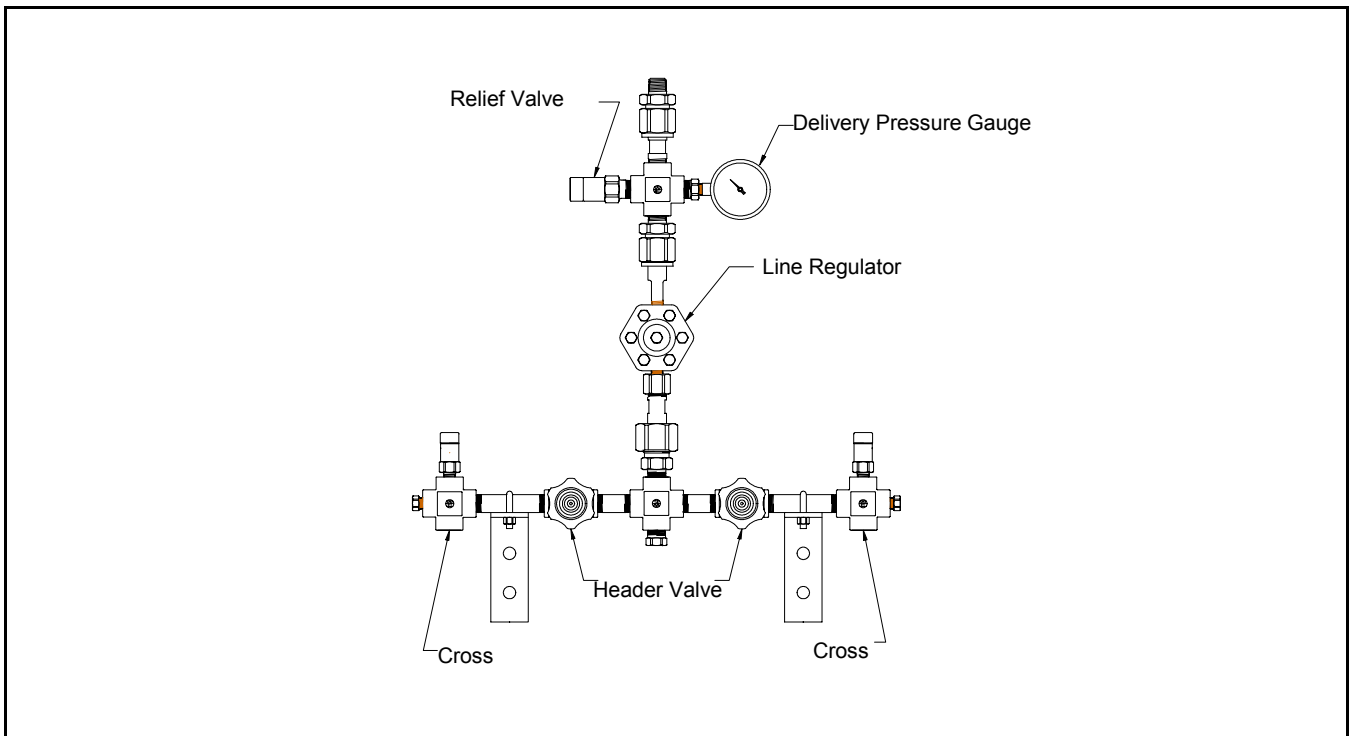

FIGURE 11
1. S-L-O-W-L-Y open the cryogenic cylinder valve (turn counter-clockwise to open) (Figure 11)